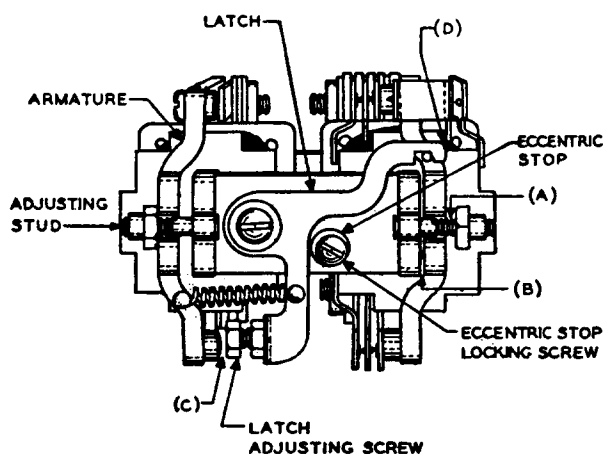

Fig. 101 — M-type Relay
1.02 Adjusting Stud Clearance: Fig. 101(A)—Armature shall clear stud.
1.05 Operated Armature Airgap: Fig. 101(B)—Max 0.005 inch with armature locked operated.
1.07 Latch and Contact Spring Clearance: Fig. 101(D) — 0.005 inch between top of latch and nearest contact spring with latch pressing against eccentric stop.